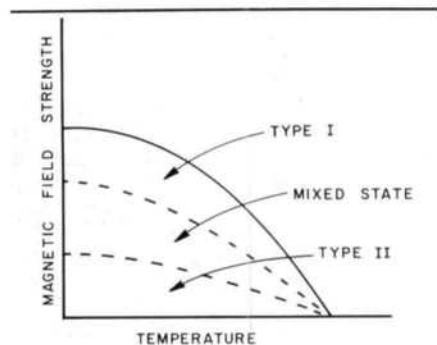

Fig 5—Phase diagram showing all three superconductive states.
Certain criteria must be met before a material is considered to be superconductive: (1) There must be a total lack of resistance to direct current, (2) the Meissner effect must be measured (it varies in different materials), (3) high reproducibility, and (4) high stability. Fig 5 is a phase diagram summarizing the types of superconductive states. The top region is the normal state, and the middle region is the mixed state that supports superconductive activity. The lower field experiences no flux penetration, so current is carried without resistance.